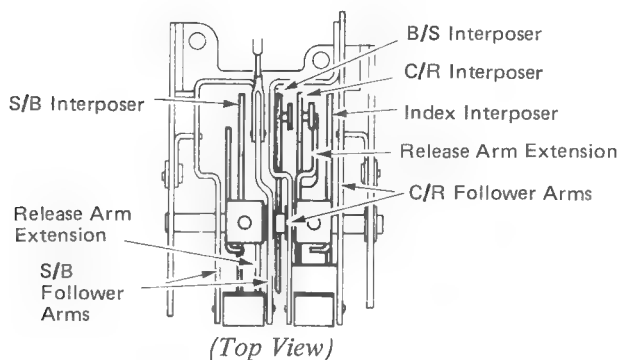

Figure 5
- a. (RB/S) Position the index, carrier return and backspace interposers between the cam follower arms (Figure 5).
- c. Position the clutch release arm to the right of the carrier return interposer (Figures 5 and 7).
- b. (RB/S) Position the spacebar interposer and clutch release arm between the cam follower arms with the clutch release arm to the right of the interposer (Figure 5).